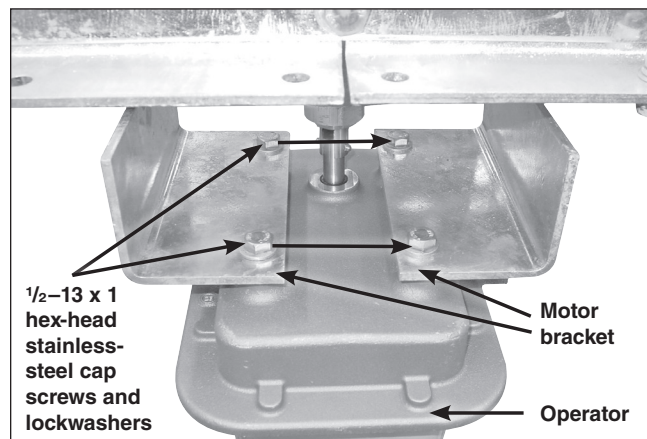

Figure 23. Removing four screws securing motor operator.
STEP 20. Remove and retain the four 1/2–13 x 1 hex-head stainless steel cap screws and flat washers that secure each motor operator to its motor brackets. See Figure 23.